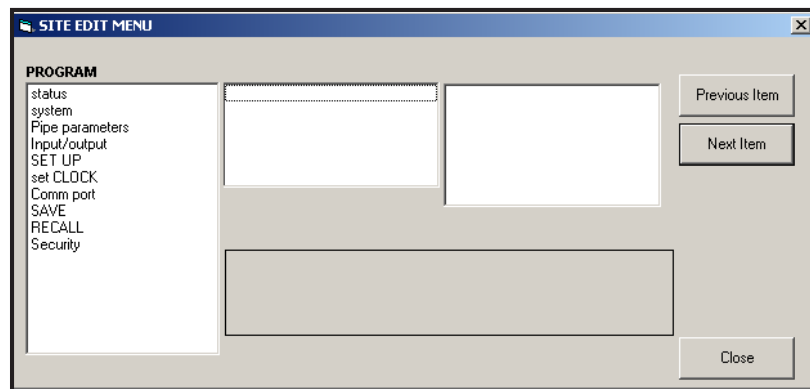

Figure 37: Site Edit Menu Window
- To open a particular menu, double-click on that menu on the tree. For example, if you double-click on the Site Edit Menu, a window opens similar to Figure 37.